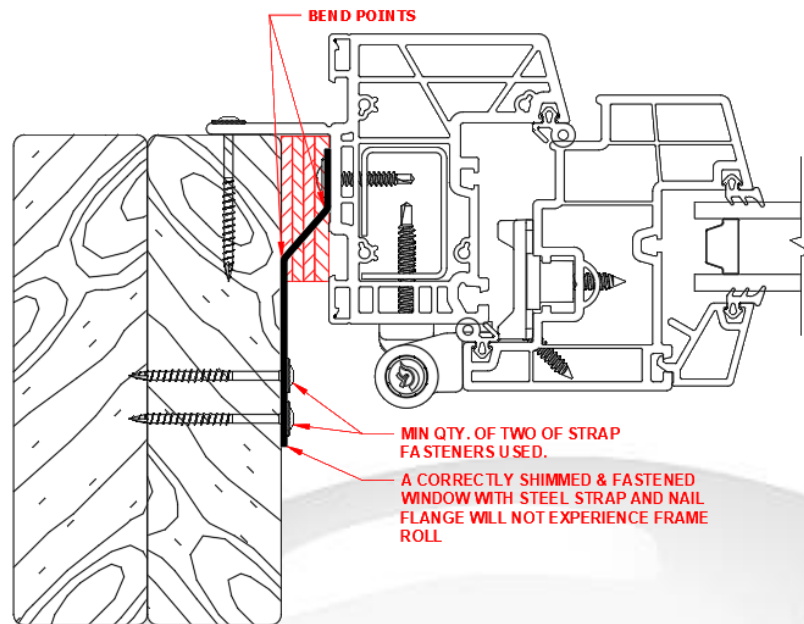

Figure 11: Jamb View Example of Correctly Shimmed & Fastened Window with Nail Flange & Steel Strap
- I. Use a #8 fastener when fastening steel strap and/or nail flange to the rough opening. (See Figure 11)